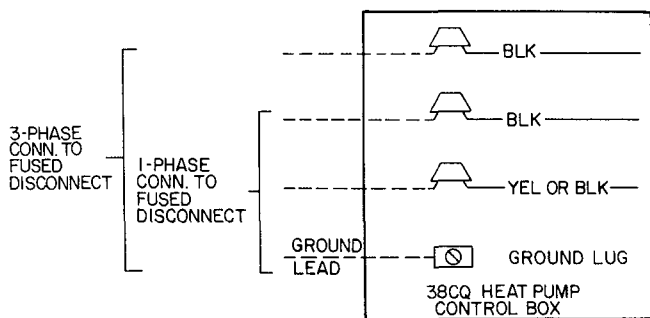

Fig. 7 – Line Power Connections
Step 9 – Connect Ground Lead to a Ground Lug in Control Box for safety. Connect power wiring. See Fig. 7. Splice line power leads to yellow and black pigtails on single-phase units or to black pigtails (3) on 3-phase unit. Use wire nuts supplied with unit. Tape each connection.